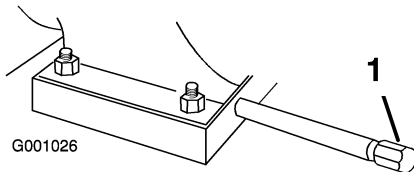

Figure 42
1. Clean the area around the oil drain cap (Figure 42).